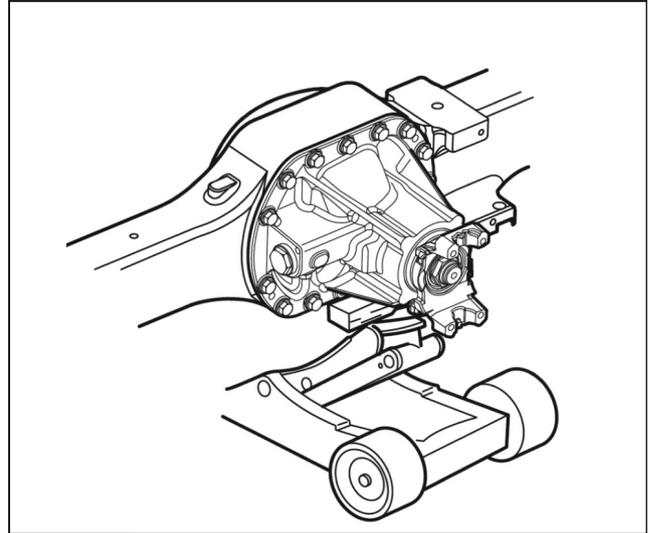

Fig. 5.9
8. Lift the differential carrier by the input yoke or flange and place the assembly in a repair stand. Use a lifting tool for this procedure. Fig. 5.9